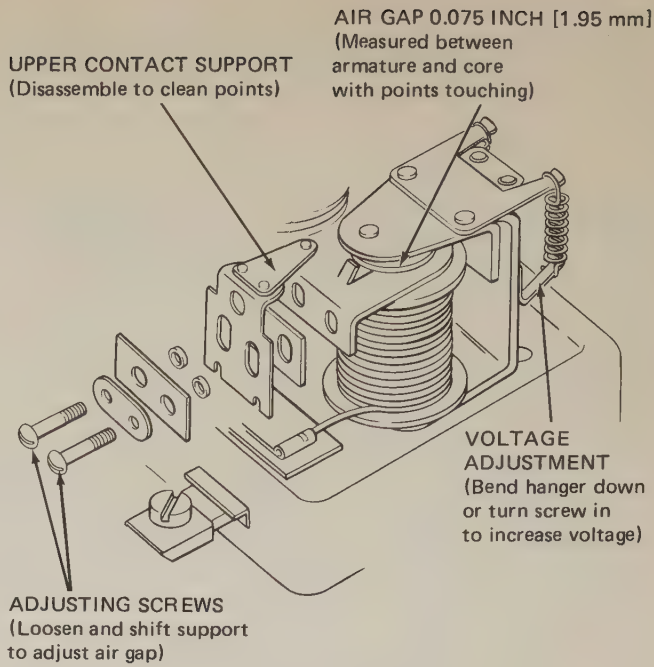

FIG. 28-16 Current-voltage regulator unit, showing adjustments. (Kohler Company)
If the regulator contact points become dirty and burned, there will be excessive resistance in the generator field circuit. The result is that generator output will be low. This could lead to a run-down battery. You can clean the contacts with a fine-cut file. This requires loosening of the screws holding the upper contact assembly in place so the assembly can be temporarily moved to one side or removed (Fig. 28-16).
**Air Gap** See Fig. 28-16. Adjust by loosening the two adjusting screws and raising or lowering the upper-contact-point assembly. Adjustment is correct when the specified air gap is attained with the contact points just touching. Tighten the screws and recheck the air gap.